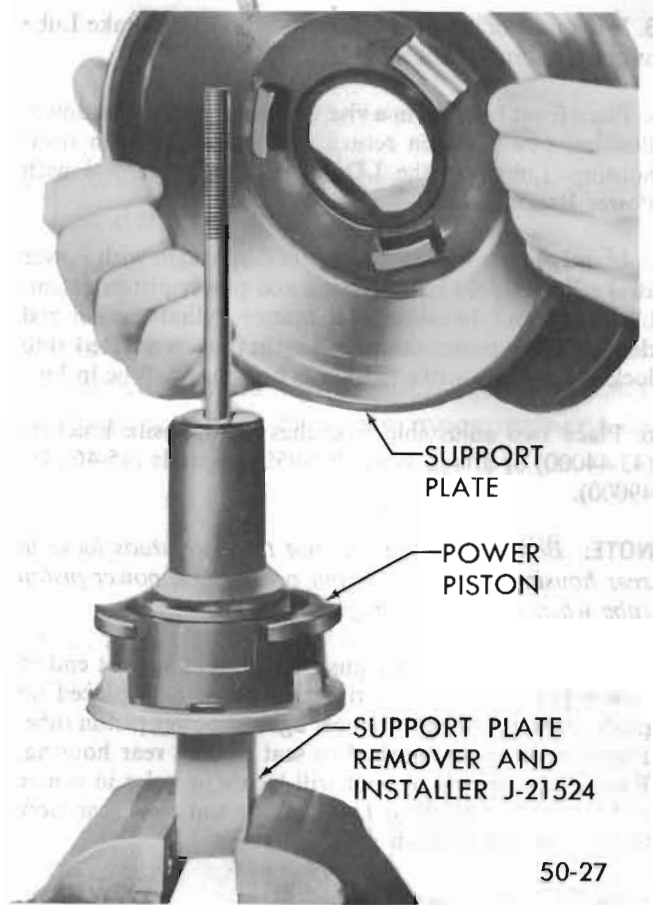

Figure 50-113 Installing Power Piston into Support Plate
15. Holding support plate by metal, with locking tangs down, place support plate and diaphragm assembly over tube of power piston. The flange of diaphragm will fit into groove on power piston. See Figure 50-113.